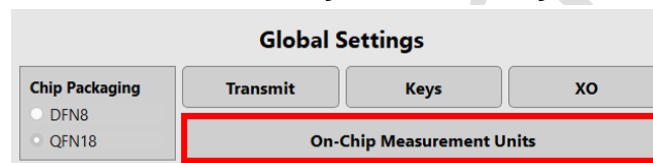

Figure 28 On-Chip measurement units
- Low Threshold setting only. The input value unit can be determined through “On-Chip Measurement Units” settings as shown in Figure 28 and Figure 29.